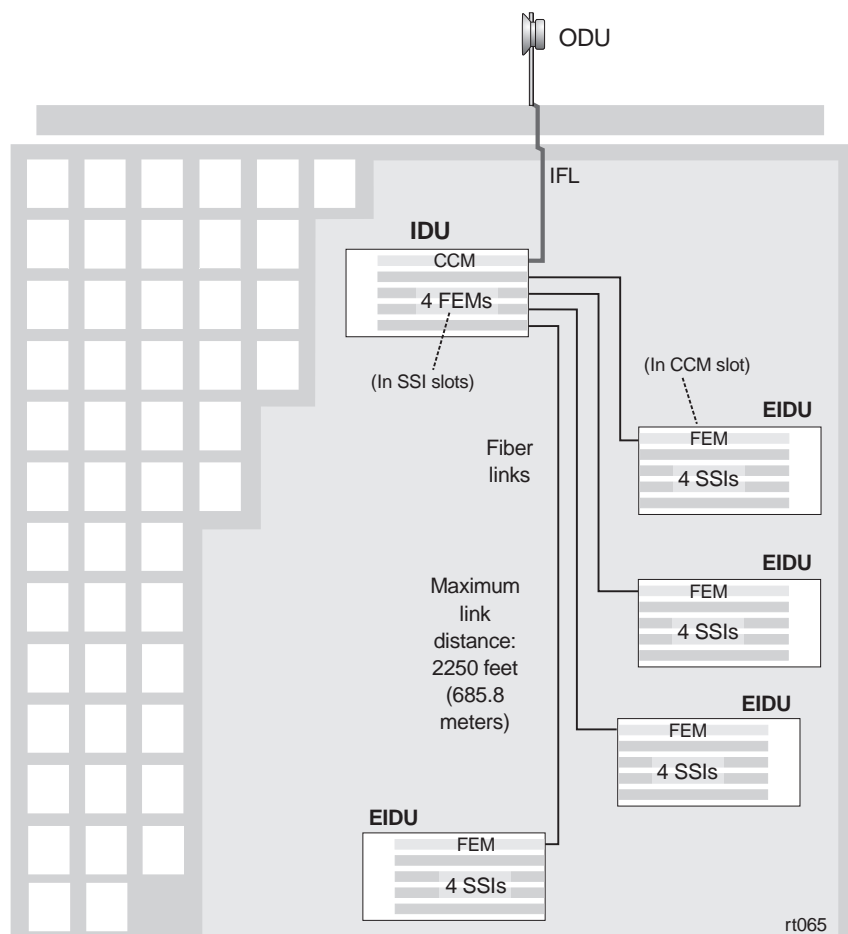

Figure 3-22 EIDUs used to distribute SSIs throughout a remote site building
If more than 4 SSIs are required at a single site, or SSIs need to be physically distributed (on different floors, for example), one or more expansion IDUs (EIDUs) may be installed, at remote sites only. A single IDU can accommodate up to 4 EIDUs (16 SSI slots) as shown in figure 3-22.
- **IDU FEMs** – IDU FEMs provide the interface on the IDU for the link to/from the EIDU (as shown in figure 3-22).
- **EIDU FEM** – The EIDU FEM provides the interface on the EIDU for the fiber link to/from the IDU (as shown in figure 3-22).
Each EIDU requires an EIDU FEM, which connects to an IDU FEM. (This is illustrated in figure 3-22.) To install an IDU FEM or EIDU FEM:
8. Connect each EIDU FEM to an IDU FEM, as illustrated in figure 3-22.